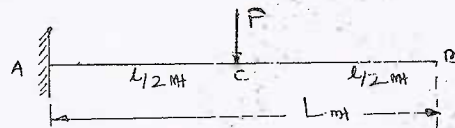

Fig.Q6
- 6 Determine all the reaction components and draw shear and moment diagrams for the beam shown in Fig.Q6.